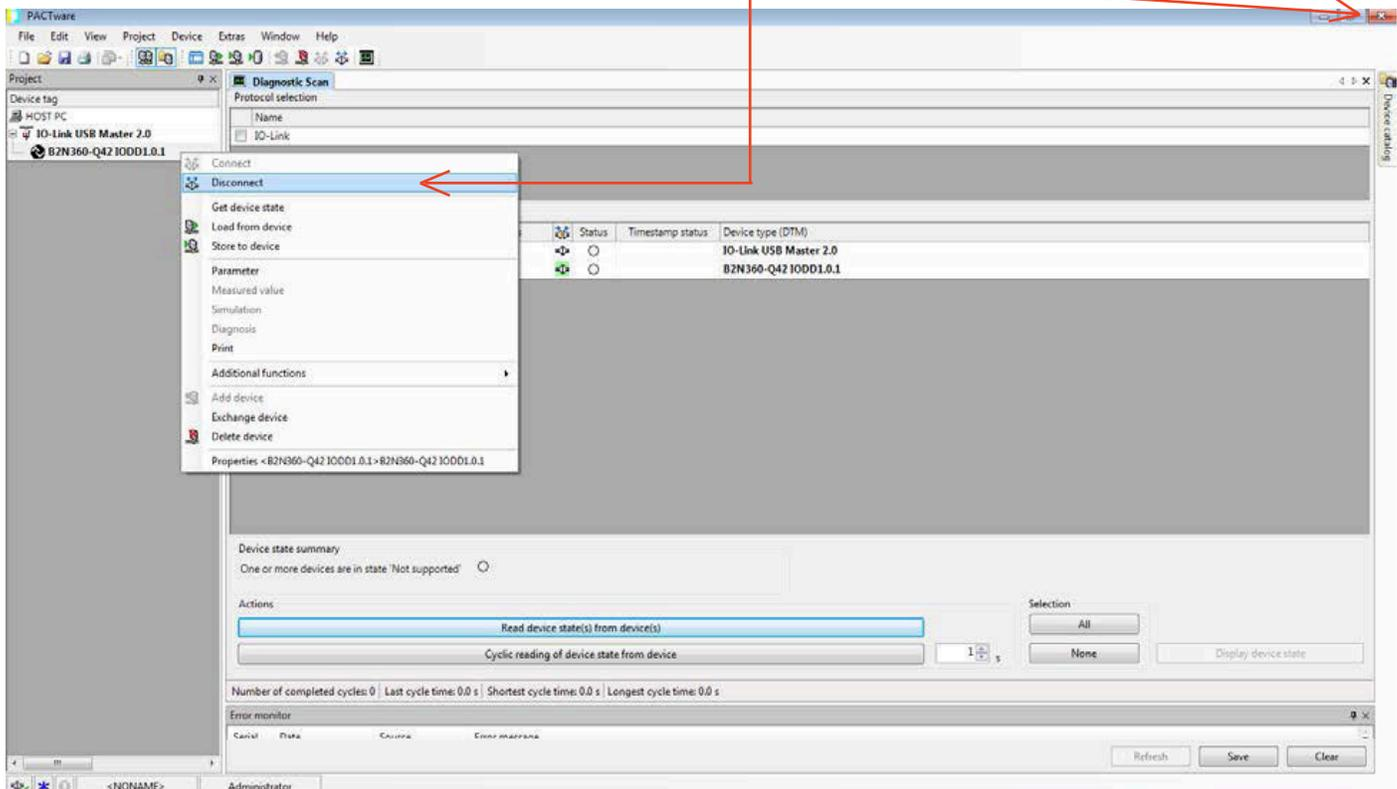

Figure 12
- 5) Close PACTware (See Figure 12)